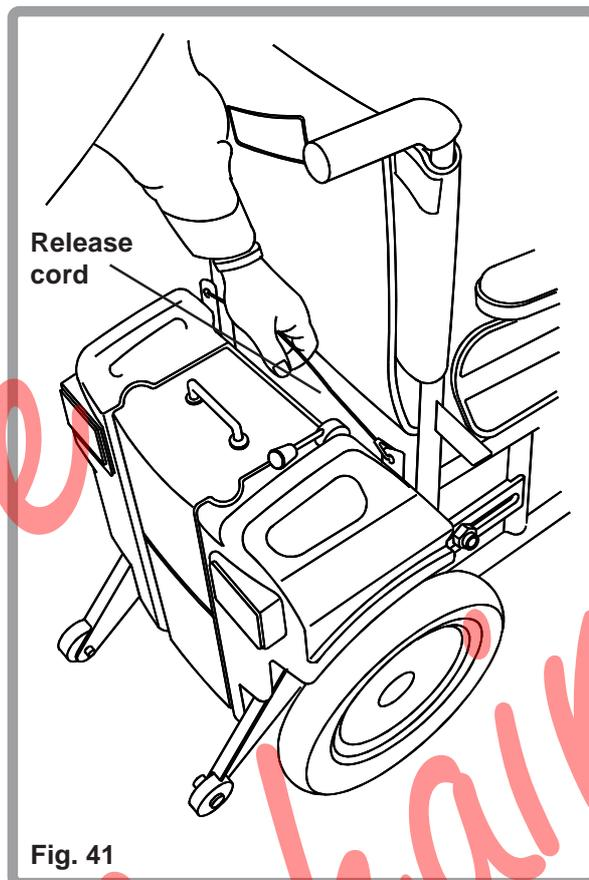

Fig. 41
- 3 Remove the motor/battery unit by pulling the release cord (Fig. 41) and holding the frame and rolling the frame away from the power unit. Allow the power unit to slowly rock back on to the stabiliser wheels.